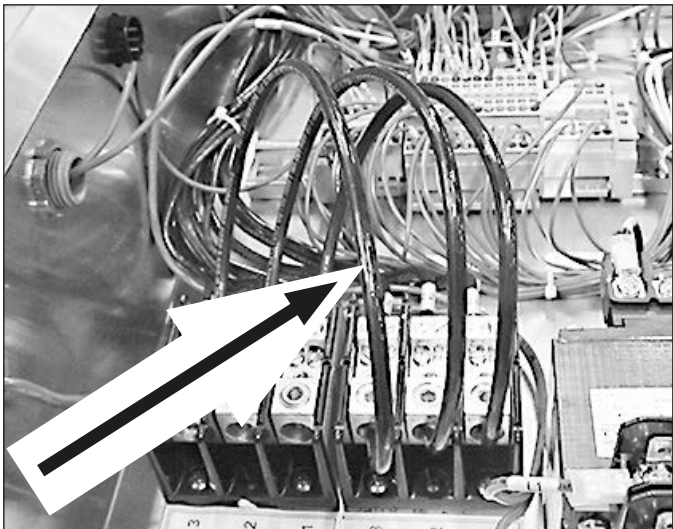

Fig.12 - 1-point connection jumpers.
1. Open the control cabinet and remove the jumpers, (Fig. 12), between 'Dishwasher' terminal block and the 'Booster' terminal block.